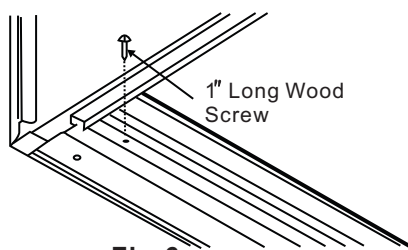

Fig.6
4. Secure bottom rail to wood frame with two large wood screws 1" (2.5cm) long using the two holes in the bottom of the channel resting on frame. (See Fig.6).